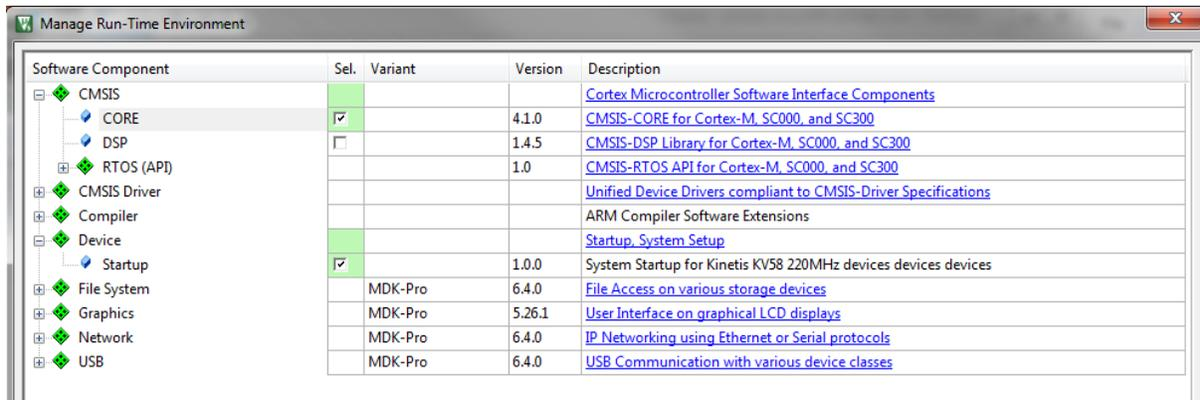

Figure 1-26. Manage Run-Time Environment dialog
- In the next dialog, expand the Device node, and tick the box next to the Startup node. See Figure 1-26.